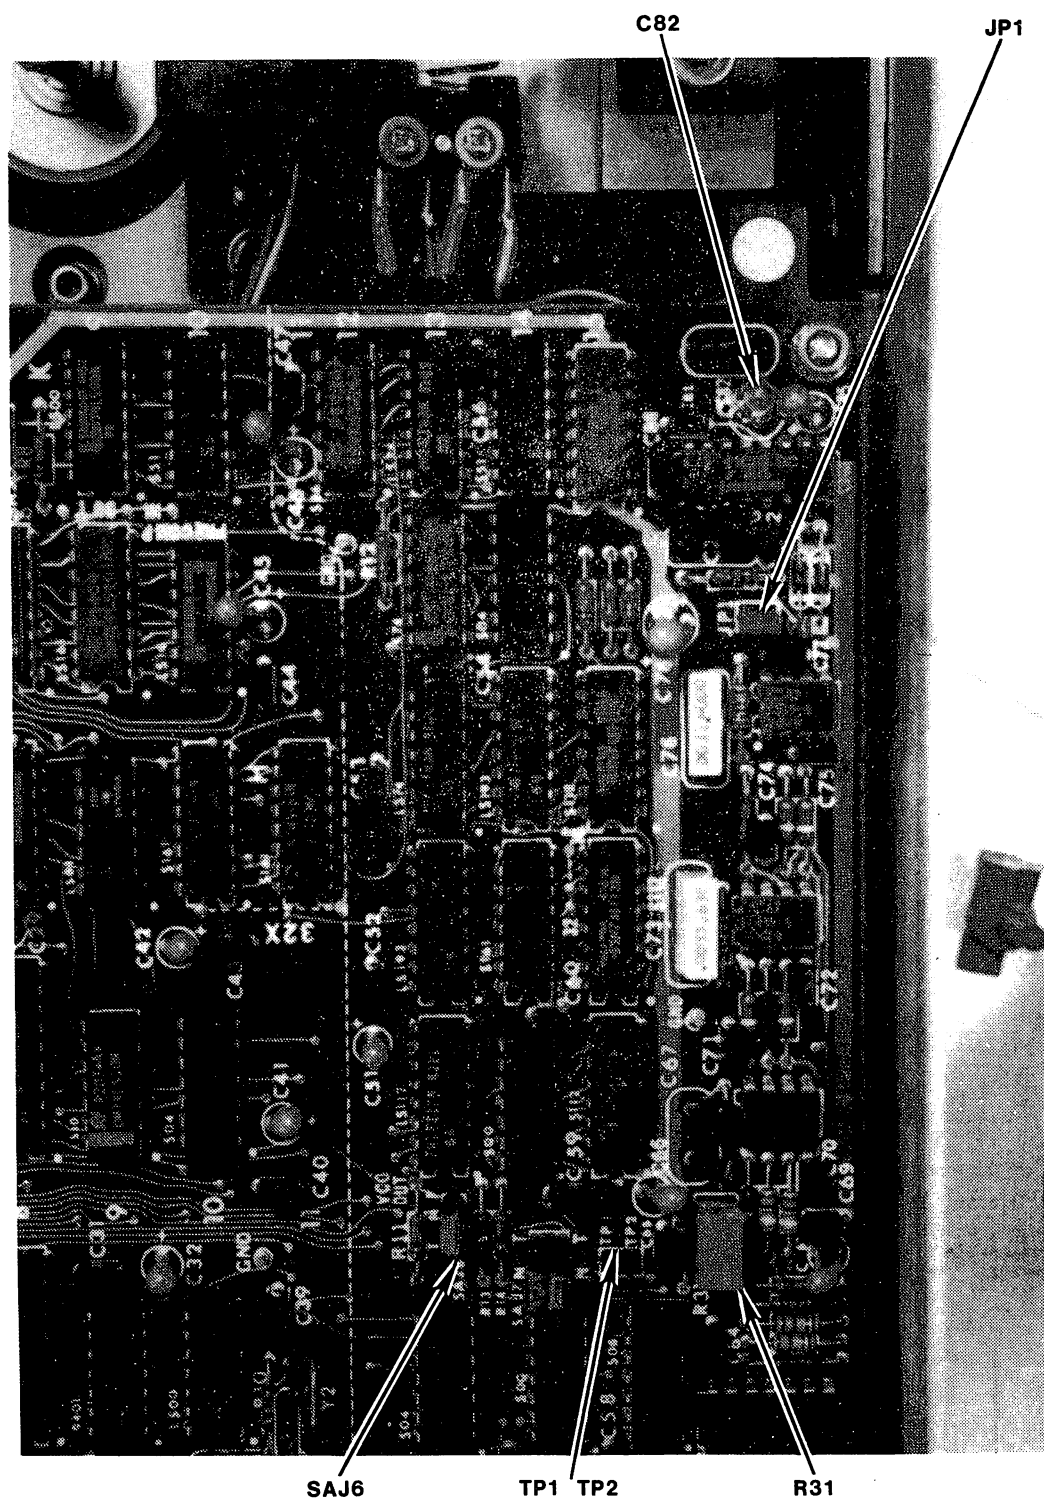

Figure 5-11 Portion of Formatter Board
- a. Remove jumpers at SAJ6 and JP1 (see Figure 5-11) on the Formatter board.
- d. Connect the frequency counter to the left most pin of SAJ6 and adjust trimmer capacitor C82 (see Figure 5-11) until the VCO center frequency measures 3.84 MHz \pm 10 KHz.
- b. Connect oscilloscope probes to TP1 and TP2 (see Figure 5-11) on the Formatter board.
- c. Adjust potentiometer R31 (see Figure 5-11) on the Formatter board until the leading edges of the two displayed waveforms coincide.